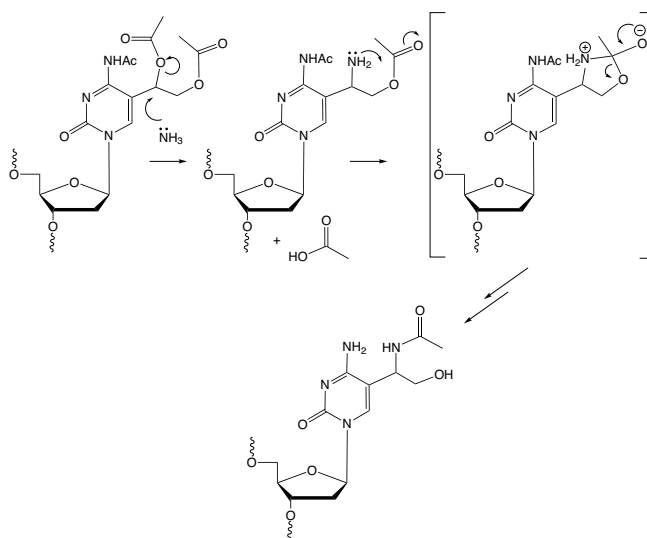

Figure 2: Proposed Mechanism for Impurity Formation with Ammonium Hydroxide
While 5-Formyl-dC (1) has been a popular product, its use is complicated by a side reaction which occurs when deprotecting the oligo in ammonia or methylamine solutions. Rather than attacking the carbonyl of the acetyl protecting group, the nucleophile attacks the carbon, displacing acetate as a leaving group. Now vicinal to the second acetyl protecting group, it quickly attacks the carbonyl, leading to the formation of a substituted N-acetamide, rather than the desired glycol. The proposed mechanism is shown in Figure 2.